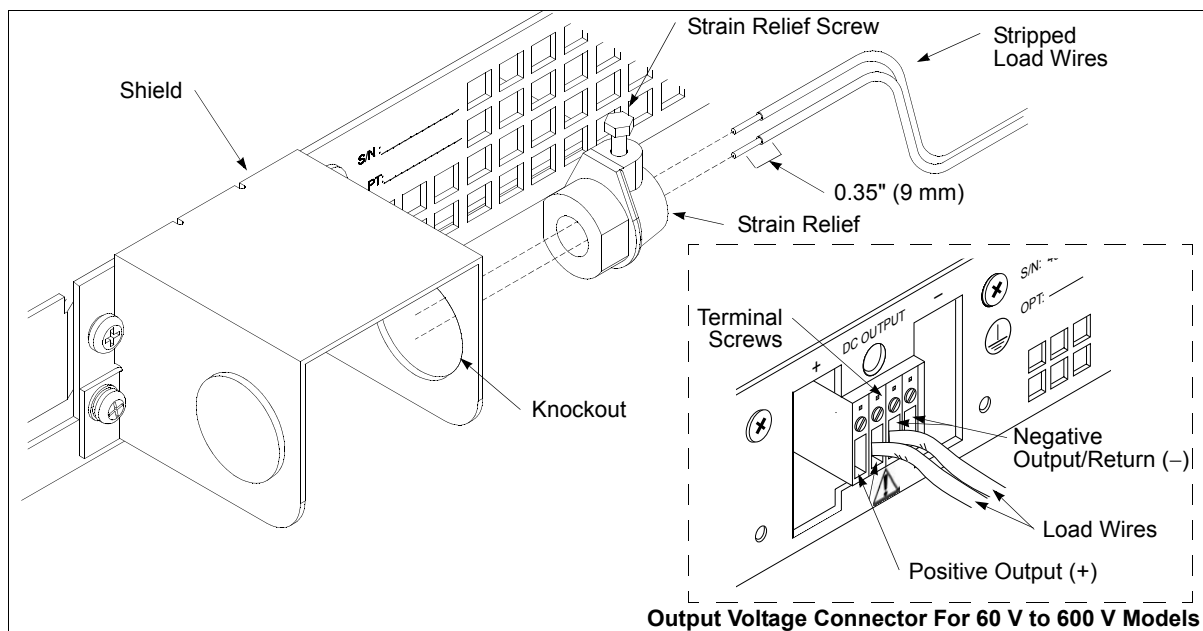

Figure 2.6 Output Voltage Connector with Shield
The 60 V to 600 V (high voltage) models have a 4-terminal, wire clamp output connector. See inset of Figure 2.6 for a labelled drawing of the wire clamp connector. The units are shipped with a protective shield attached (see Figure 2.6). To prepare and connect the load wiring:
7. Loosen the connector terminal screw (see inset in Figure 2.6), insert the stripped wire into the terminal, and tighten the terminal screw securely.